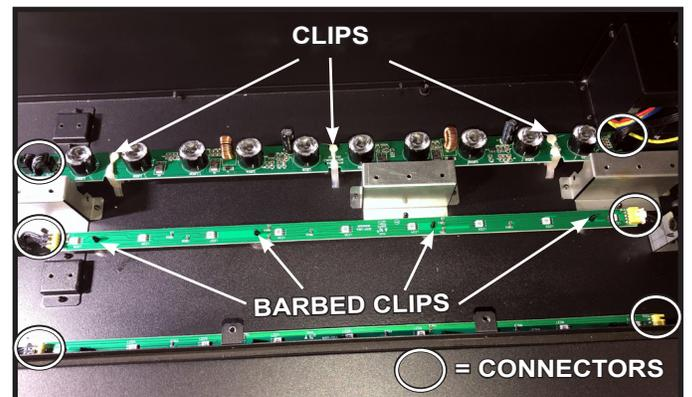

Figure 21
6. Locate Lighting LED circuit input power source connectors in rear of opening, unplug the two connectors. Unplug the connectors between the LED circuit boards. See Figure 21.
7. Using a pliers, compress each barbed clip along the front base circuit boards while lifting the boards evenly to disengage them from the clips. Use pliers to open/spread clips along rear LED strip while lifting to disengage it from the clips. See Figure 21. Remove all LED circuit boards.